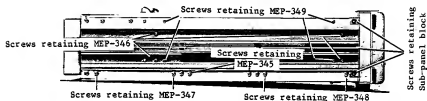

Fig. 13-10 RF section left side view
Referring to the assembly drawing, remove the two rear feet on the left and side plate, then remove the four retention screws shown in Figure 13-10. For troubleshooting, remove the top cover from the block and use each signal cable and interconnecting cable. If the 2.05 GHz AMP (SHB-000553) is defective, it should be replaced with a normal one.
- (9) MEP-349 (COUNTER block)
As in step (8), remove the rear feet and side plate, then remove the retention screws shown in Figure 13-10.